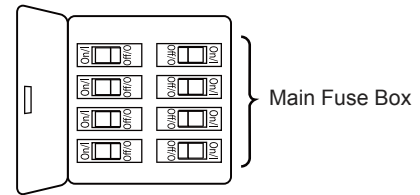
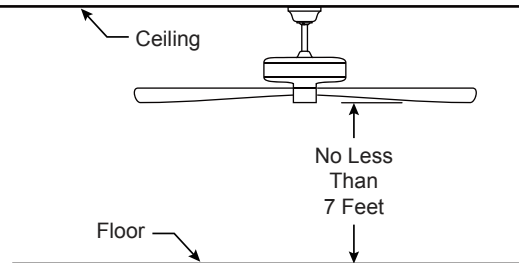
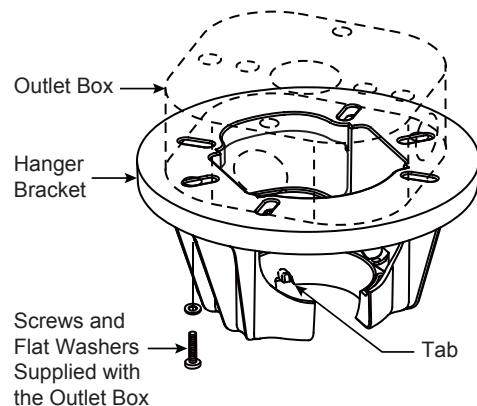
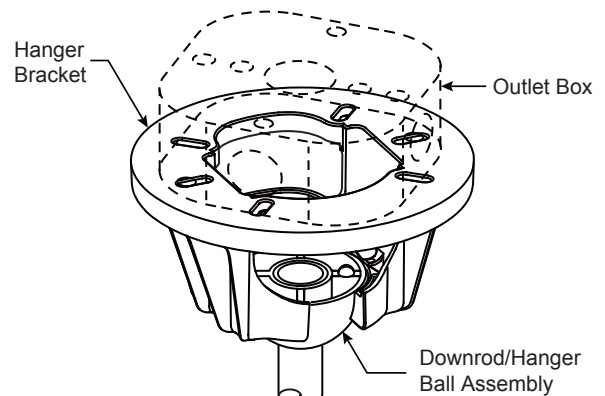

Figure 1
Figure 2
Figure 3
Figure 4
Your new ceiling fan will require a grounded electrical supply line of 120 volts AC, 60 HZ, 15 Amp Circuit. Electrical code requires use of a fan-rated outlet box to support the extra weight and motion associated with a ceiling fan. A fan-rated box will be labeled as such and typically supports up to a 70lb ceiling fan. Fan-Rated Outlet Boxes vary in ratings and design. Ensure the ratings of your ceiling fan outlet box meet the requirements for the ceiling fan being installed. Figure 1, Figure 2 and Figure 3 depicts different structural configurations that may be used for mounting the outlet box.
Low profile box (Figure 1)
Deep box (Figure 2)
Deep box with brace (Figure 3)
2. Prior to assembly, set aside and save the hardware bags packaged with your fan. Remove the hanger ball by loosening the set screw in the hanger ball until the ball falls freely down the downrod. Remove the pin from the downrod, then remove the hanger ball. Retain the pin and hanger ball for reinstallation in Step 7. (Figure 2)
3. Remove the hairpin clip and clevis pin from the bottom of downrod. Retain the pin and clip for reinstallation in Step 5. (Figure 3)
4. Loosen the two set screws and locking nuts in the downrod support of the motor assembly. Route the brown, blue, red, gray and yellow wires through the downrod. (Figure 4)
To avoid possible fire or shock, be sure electricity is turned off at the main fuse box before hanging. (Figure 1)
The fan must be hung with at least 7' of clearance from floor to blades. (Figure 2)
1. Securely attach the hanger bracket to the outlet box using the outlet box screws and washers supplied with the outlet box. (Figure 3)
NOTE: Outlet box screws pass through slotted holes of the hanger bracket. (Figure 3)
3. Carefully lift the fan and seat the downrod/hanger ball assembly onto the hanger bracket that was just attached to the outlet box. (Figure 4) Be sure the groove in the ball is lined up with tab on the hanger bracket. (Figure 3)
1. To set the code on receiver unit, slide dip switches to the same positions as set on the remote control. (Figure 1)
To avoid possible electrical shock, be sure electricity is turned off at the main fuse box before wiring. (Figure 2)
2. Slide the receiver into the hanger bracket before wiring as shown in figure 3.
3. Connect wires using connectors as shown in Figure 4.
- 1. Assemble canopy by rotating key slot in canopy over shoulder screw in hanger bracket, taking care not to pinch the wires. Tighten shoulder screw. Fully assemble and tighten second shoulder screw that was previously removed. (Figure 1)
- 2. Securely attach and tighten the canopy screw cover over the shoulder screws in the hanger bracket utilizing the key slot twist-lock feature. (Figure 2)
1. Position blade along the motor, aligning blade holes with holes in the top of the motor assembly flywheel. Make sure the blade is fully seated against the flywheel and install serrated head screws with stainless flat washers from the hardware bag, but don't fully tighten at this time. (Figure 1)
2. Install and securely tighten all screws with stainless flat washers at the underside of the blades, then securely tighten all previously installed screws on top of motor. (Figure 2)
3. Attach the plastic cap assembly to the motor assembly, which is held in place by a magnet. (Figure 3)
- 1. IMPORTANT:** Using a full range dimmer switch (not included) to control fan speed will damage the fan. To reduce the risk of fire or electrical shock, do not use a full range dimmer switch to control the fan speed. (Figure 1)
- 2.** Restore electrical power to the outlet box by turning the electricity on at the main fuse box. (Figure 2)
- 3.** Remove the battery cover from remote control by screwdriver and retain the screw for later. (Figure 3)
- 4.** To make fan operational, install two 3V batteries (included) in hand-held remote transmitter, with fan power off. Then, follow the remote code setting process. If not used for long periods of time, remove battery to prevent damage to transmitter. Store the remote away from excessive heat or humidity. (Figure 4)